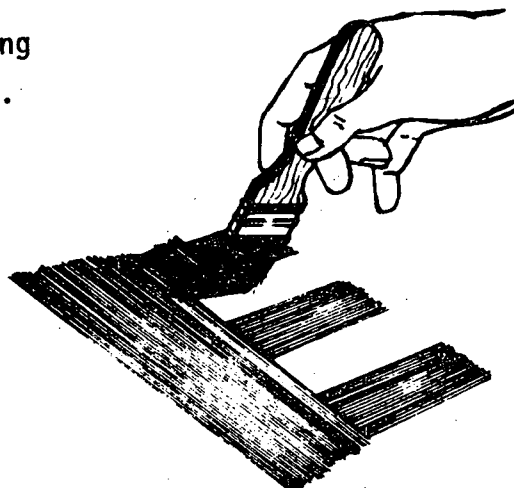

Fig. 3
- d) Spread the paint by crossing the first strokes (Fig. 3).